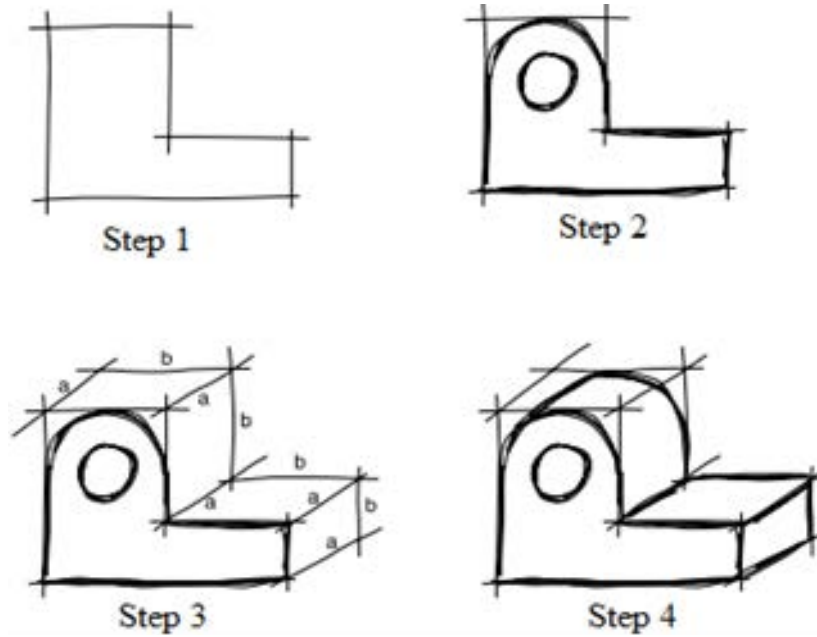

Fig. 3.33: Making an oblique sketch (Teachers Manual)
- Sketch in and darken the lines outlining the part as shown in Fig. 3.33.